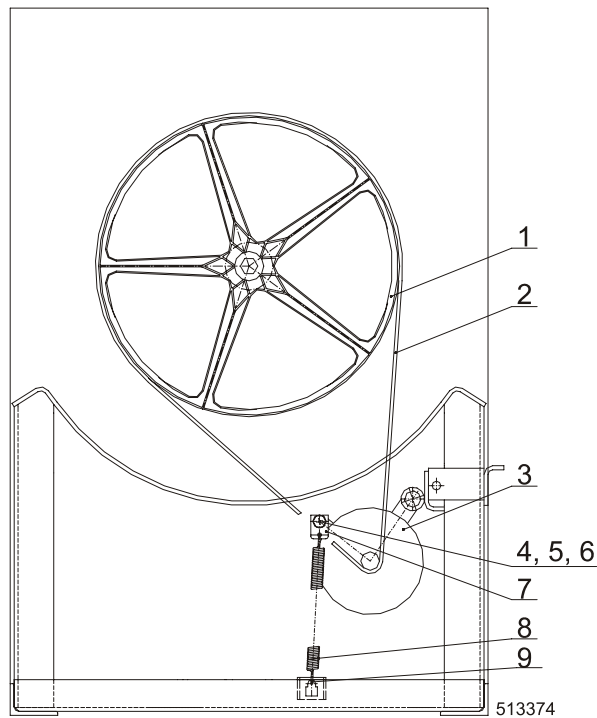

Fig.5.8.A. Flat belt, valid for 6-7 kg / 15-18 lb
- Remove the belt, fig.5.8.A.,pos.2 by pulling it while the drum pulley (1) is rotating at same time.
- Put a new belt (2) of same type on the pulley. Installation of the belt is done in reverse order compared to its removal. Take care so that the tension spring (8) would be fasten to the motor (3) and to the holder on the frame.
- The belt must be placed in the correct grooves of the motor pulley, so that it could move in the middle of the drum pulley width (1).
- Remove the belt PJ1473, fig.5.8.B.,pos.2 pulling it while the drum pulley (1) is rotating at same time.
- Remove the belt PJ559 (6) by pulling it off.
- Put a new belt PJ559 (6) on the tension pulley. Installation of the belt is done in reverse order compared to its removal. Take care so that the tension springs (7) would be fasten to openings in the pulley support and to the frame hinge.
- If it is not possible to install the belt on the tension pulley, we can move the motor (16). Loosen the bolt M8 (11) which ensures the correct position of the motor. Move the motor to enable the belt installation and fasten it. Tighten the securing bolt (11) carefully so that it would not deform the plastic washers (14,15).
- Put a new belt PJ1473 (2) on the pulley. Installation of the belt is done in reverse order compared to its removal. Take care so that the tension springs (7) would be fasten to openings in the pulley support and to the frame hinge.